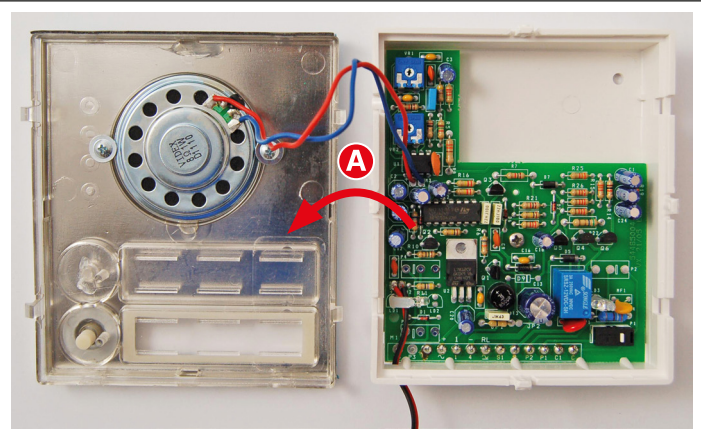

Fig. 10
3. Unclip the front metal speaker fascia from the module's back plastic to open up the module, as shown in **Fig.10, A**.